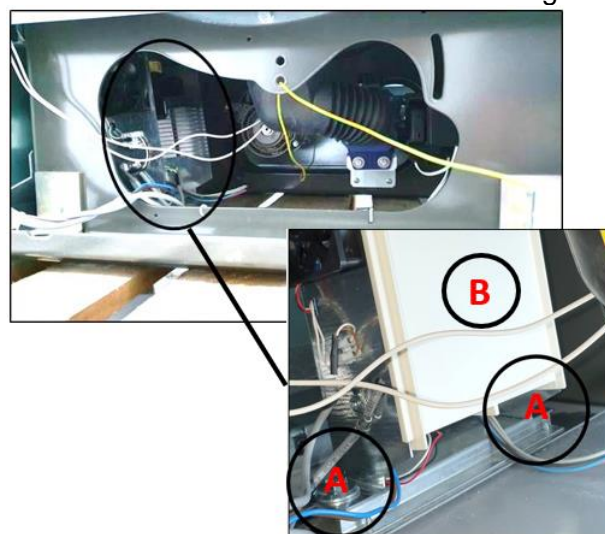

Fig. 2.2
4. Loosen the screws **A** (Fig. 2.2) securing the inverter housing to the machine and remove the cover **B** (Fig. 2.2).